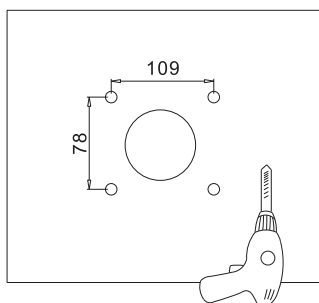

Figure 2-1
1. Cut holes on the wall according to locating plate (Figure 2-1)